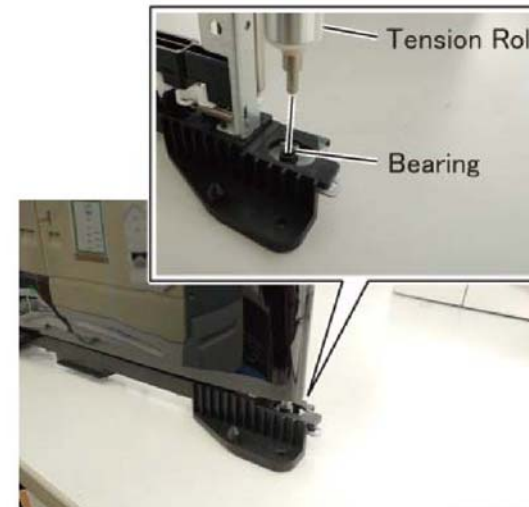

Figure 14 Tension roll shaft
3. When installing the rear holder and the tension roll, insert the shaft of the tension roll to the bearing on the IBT belt unit side, Figure 14.